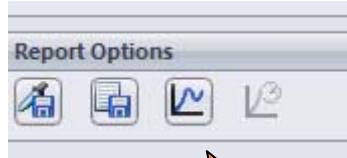

Figure 12
- c. While still in the Probe Results window and with the 5 points listed in the results click on the plot icon under the Report Options to obtain your results plot as shown in Fig. 12.